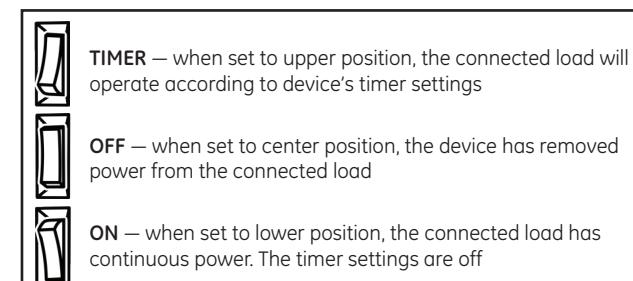

FIG 6
4. Set master switch to the TIMER position [FIG 6]: